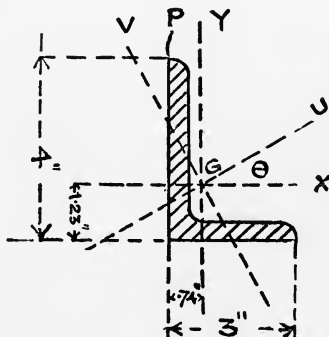

Fig. 3.
7. Fig. 3 is the section of an unequal angle iron. This angle iron is subjected to a bending moment M inch tons, the plane of the bending moment having GY as its trace. Calculate the longitudinal stress at the point P .